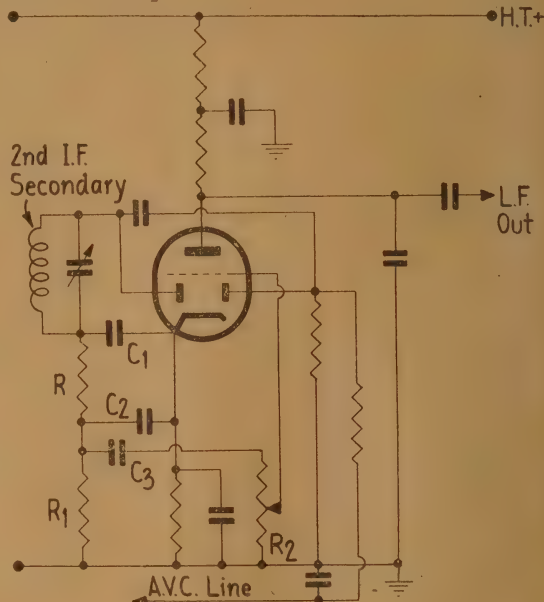

Fig. 2.
- (3) Too large I.F. filter condensers, C_1 , C_2 , Fig. 2.
The detector stage may produce amplitude distortion, even with the almost universal double diode. Since the small diode used in multiple valves will normally handle an input of some 50 volts quite comfortably, the input is not considered to be critical as long as it exceeds a certain minimum value so as to reach beyond the small initial bend of the characteristic. Considering the familiar circuit of Fig. 2, requirements for satisfactory operation are that the load impedance to modulation frequencies is high compared with the diode impedance and not greatly less than the D.C. resistance, while the load impedance at the carrier frequency must be small. The load impedance at low modulation frequencies is the D.C. resistance, and maximum linearity is obtained when this is high. At high modulation frequencies C_1 and